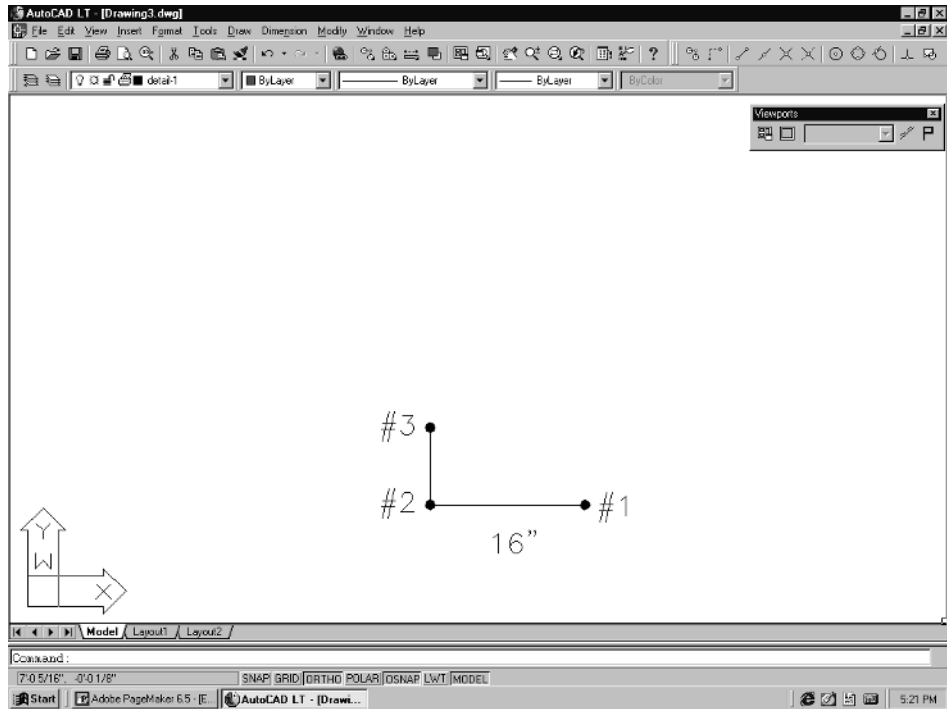

Figure 5-31
7. Next, draw a line up **8"** from point #2, as shown in Figure 5-31. These are the basics that you need to begin building the detail.